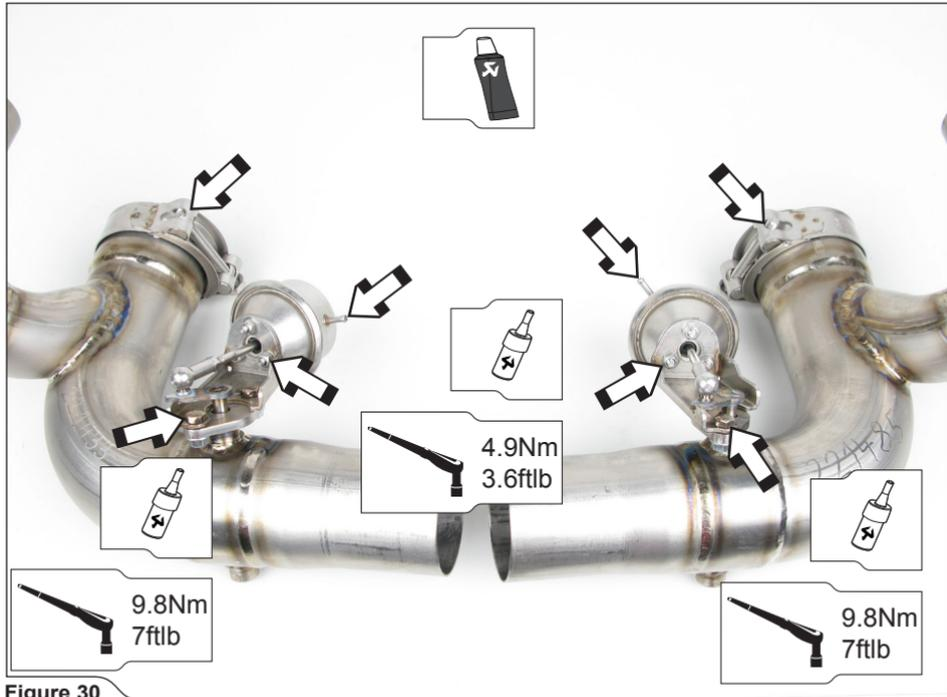

Figure 30
12. **For Evolution and SlipOn-Race:** attach the Akrapovič metal clamps (**For Evolution only!**) onto link pipes as shown (**Figure 30**). Assemble the Akrapovič vacuum cylinder brackets (using Akrapovič M6x12 bolts) and vacuum cylinders (using stock nuts) onto Akrapovič link pipes as shown (**Figure 30**).